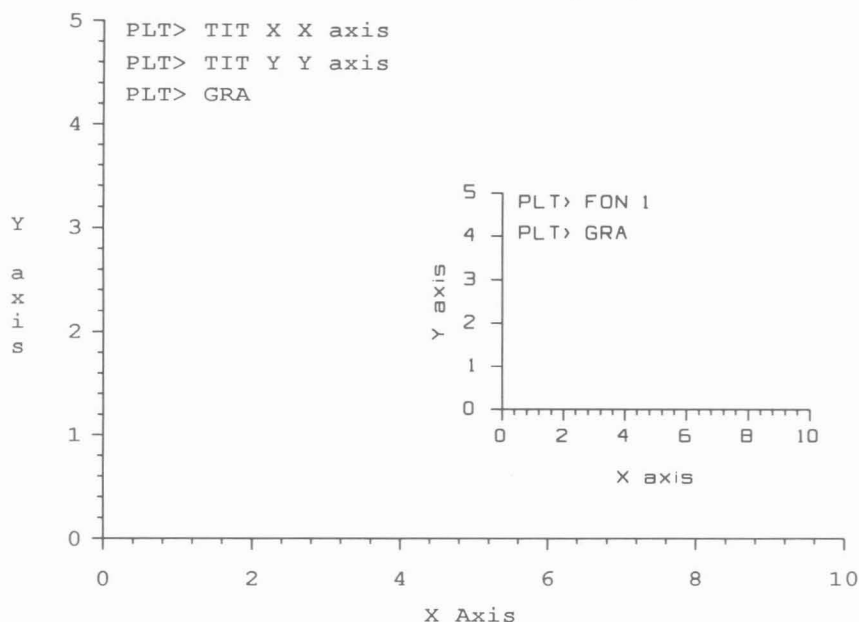

Figure 21. Use of the **TIT** command.
The TITLE command is used to place axis titles (WORDS, up to 50 characters) centered automatically about the specified AXIS (X, Y or Y1 left, or Y2 right) (Figure 21). Titles of ordinate (Y) axes are printed vertically. When a software font is in use, characters are truly rotated on ordinate axes. Otherwise, letters appear one below the other. Centering is done automatically, regardless of the graph's position on the screen. The SIZE command controls the size of letters.